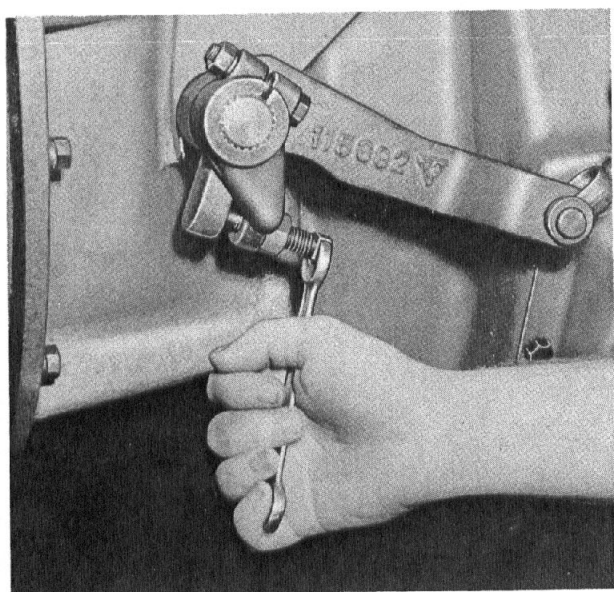

Fig. 22 - Adjusting Clutch Pedal Linkage.
(3) Proper clutch pedal "free travel" is approximately 1-1/2". The gradual reduction from this amount is a normal condition caused by wearing of the facings.
(4) If inspection indicates clutch pedal "free travel" is less than 1/2", immediate adjustment of the clutch pedal linkage should be made to restore proper 1-1/2" free travel, (Fig. 22). This 1-1/2" pedal free travel normally results in 1/8" clearance between the clutch release levers and release bearing.
(5) If excessive free play is present in the clutch pedal linkage due to worn parts, the worn parts should be replaced. Excessive wear of the release linkage may give a false impression of the actual amount of release bearing clearance. **CAUTION:** Excessive clutch pedal "free travel" may prevent complete clutch disengagement while insufficient clutch pedal "free travel" will cause slippage, and short clutch life.